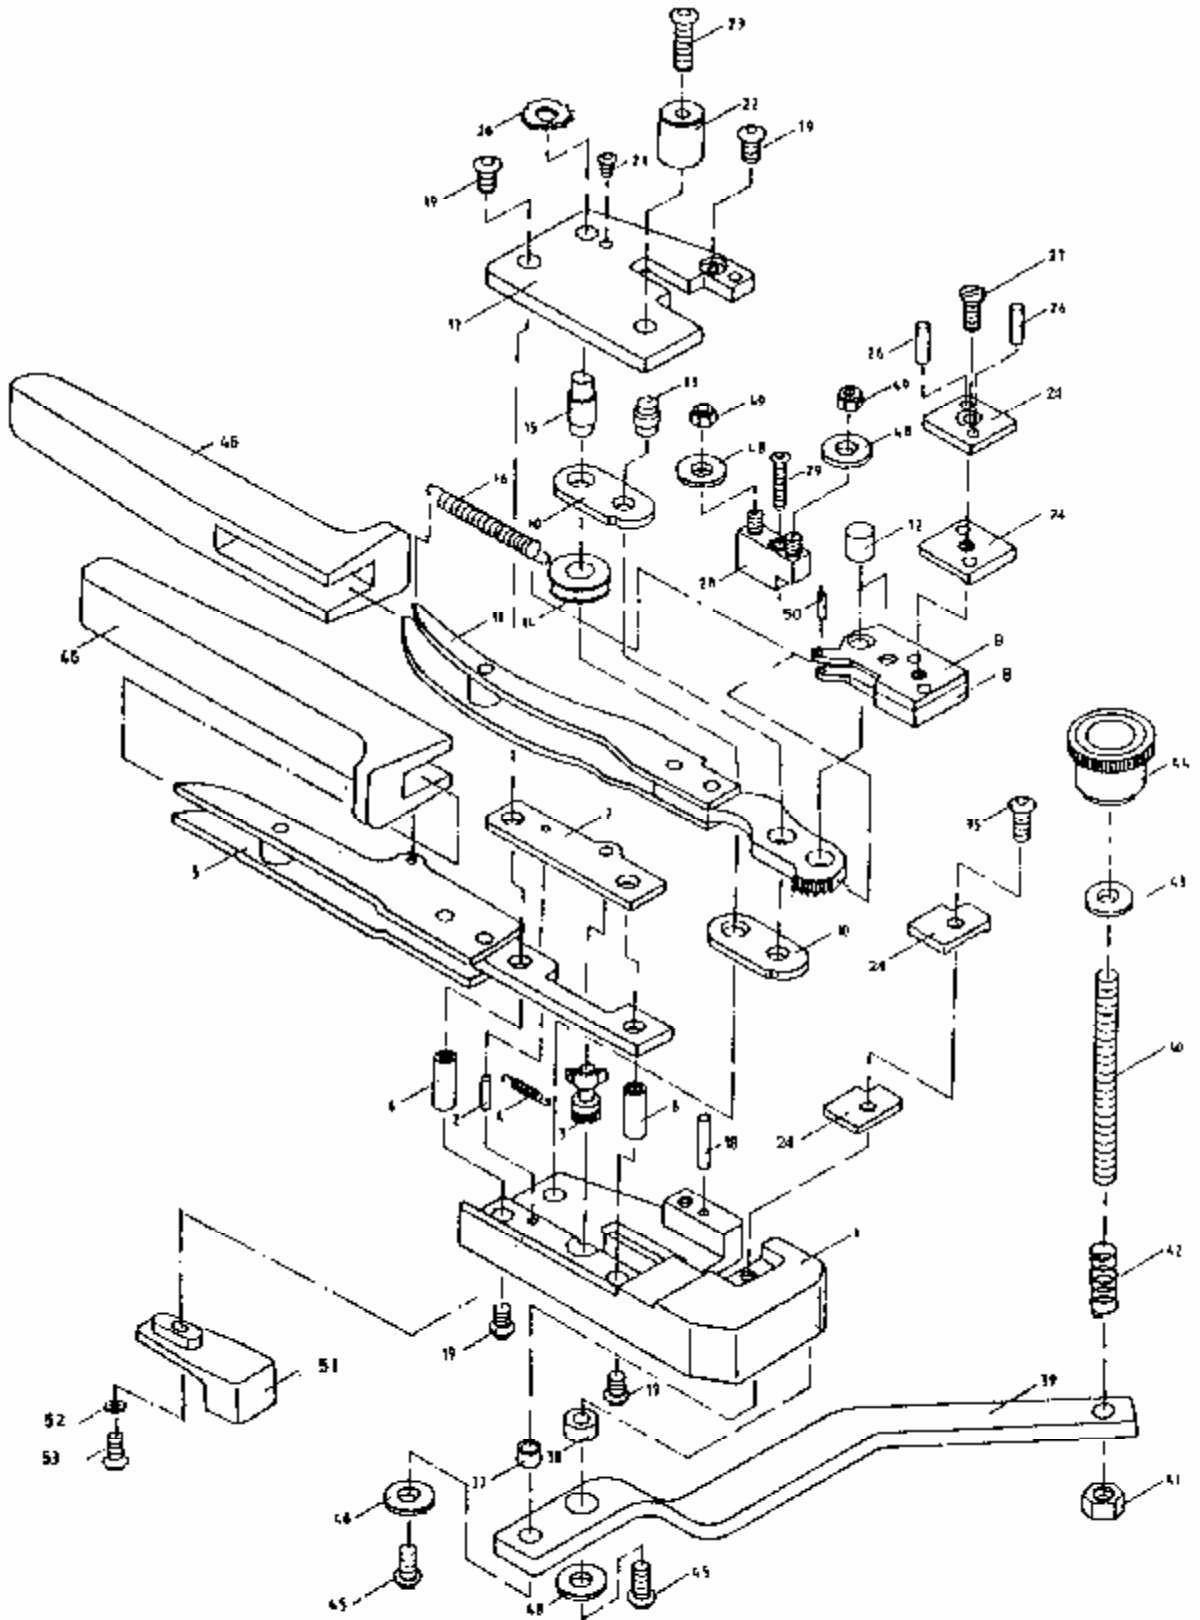

Figure 1
1. Place the handtool in your left hand, so that the movable handle (item 11, figure 1) may be actuated by your thumb.
5. Close the handtool by moving the handle (item 11, figure 1) while the wire is held in position.
6. When the handtool is completely closed, the movable handle (item 11, figure 1) may be returned to its starting position.
This is done by loosening the screw (item 21, figure 1) and rotating the stop rings (item 20, figure 1) one stop to change the crimp height approximately 0.05 mm (0.002 inches).
5.1 Parts for figure 1